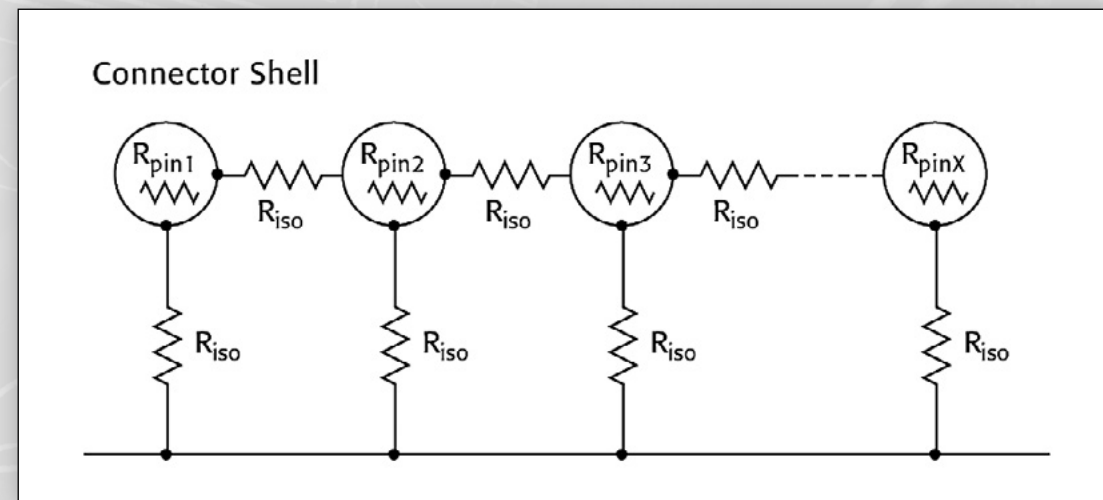

Figure 7. Electrical equivalent of a connector showing pin continuity and isolation resistance
- Connector insulation resistance** – Given today’s ever-shrinking circuit geometry and the higher frequencies of electronic signals, isolation is an important consideration for reliability and crosstalk. Isolation is typically tested by applying a voltage across two pins in a connector and measuring the resulting current that flows between them. The corresponding resistance from the test is compared to a predetermined threshold value. If the resistance level is too low, the connector is rejected. **Figure 7** shows the electrical equivalent of a connector; the isolation resistance is identified as R_{iso} . When testing very high ohmic devices, the measured resistance may change significantly in response to a change in the applied voltage, an effect known as the voltage coefficient of resistance.